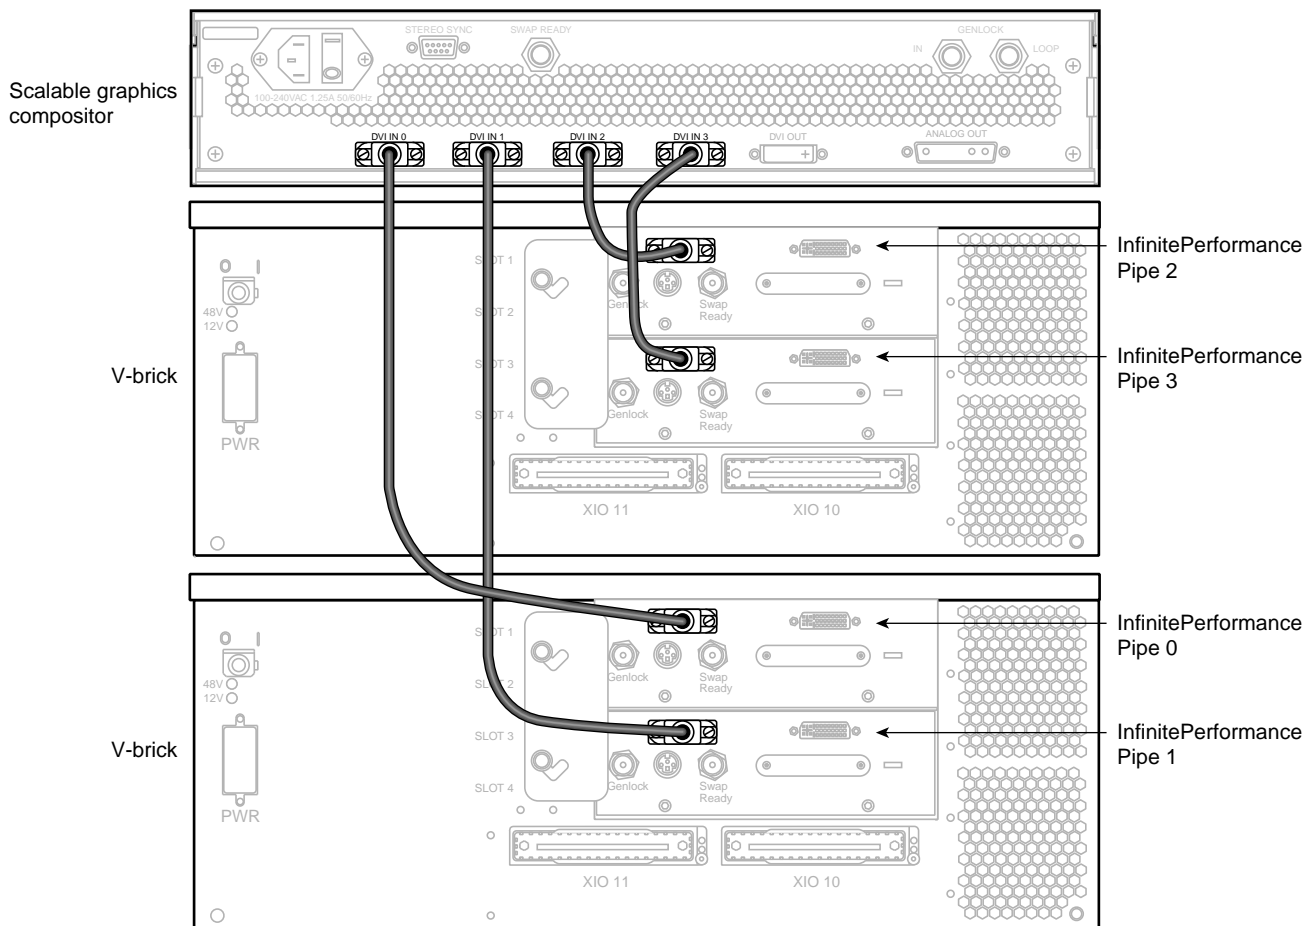

Figure 2-4 Connecting the DVI Connectors
3. Using DVI single-link cables, connect the leftmost DVI connectors of the InfinitePerformance pipes to the compositor DVI connectors in the following order (as shown in Figure 2-4):